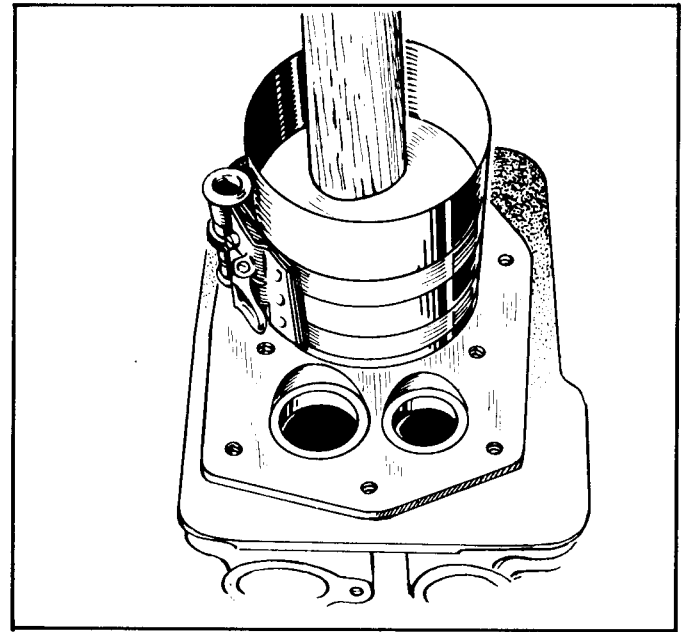

FIGURE 22. INSTALLING PISTON
2. Lubricate the number one piston assembly and inside of the cylinder. Compress the rings with a ring compressor as shown in Figure 22.
4. Tap the piston down into the bore with the handle end of a hammer until the connecting rod is seated on the journal (Figure 22). Install the bearing cap on the rod with the witness marks and stamped reference numbers matching the marks on the rod. Install and tighten the bolts to the specified torques.